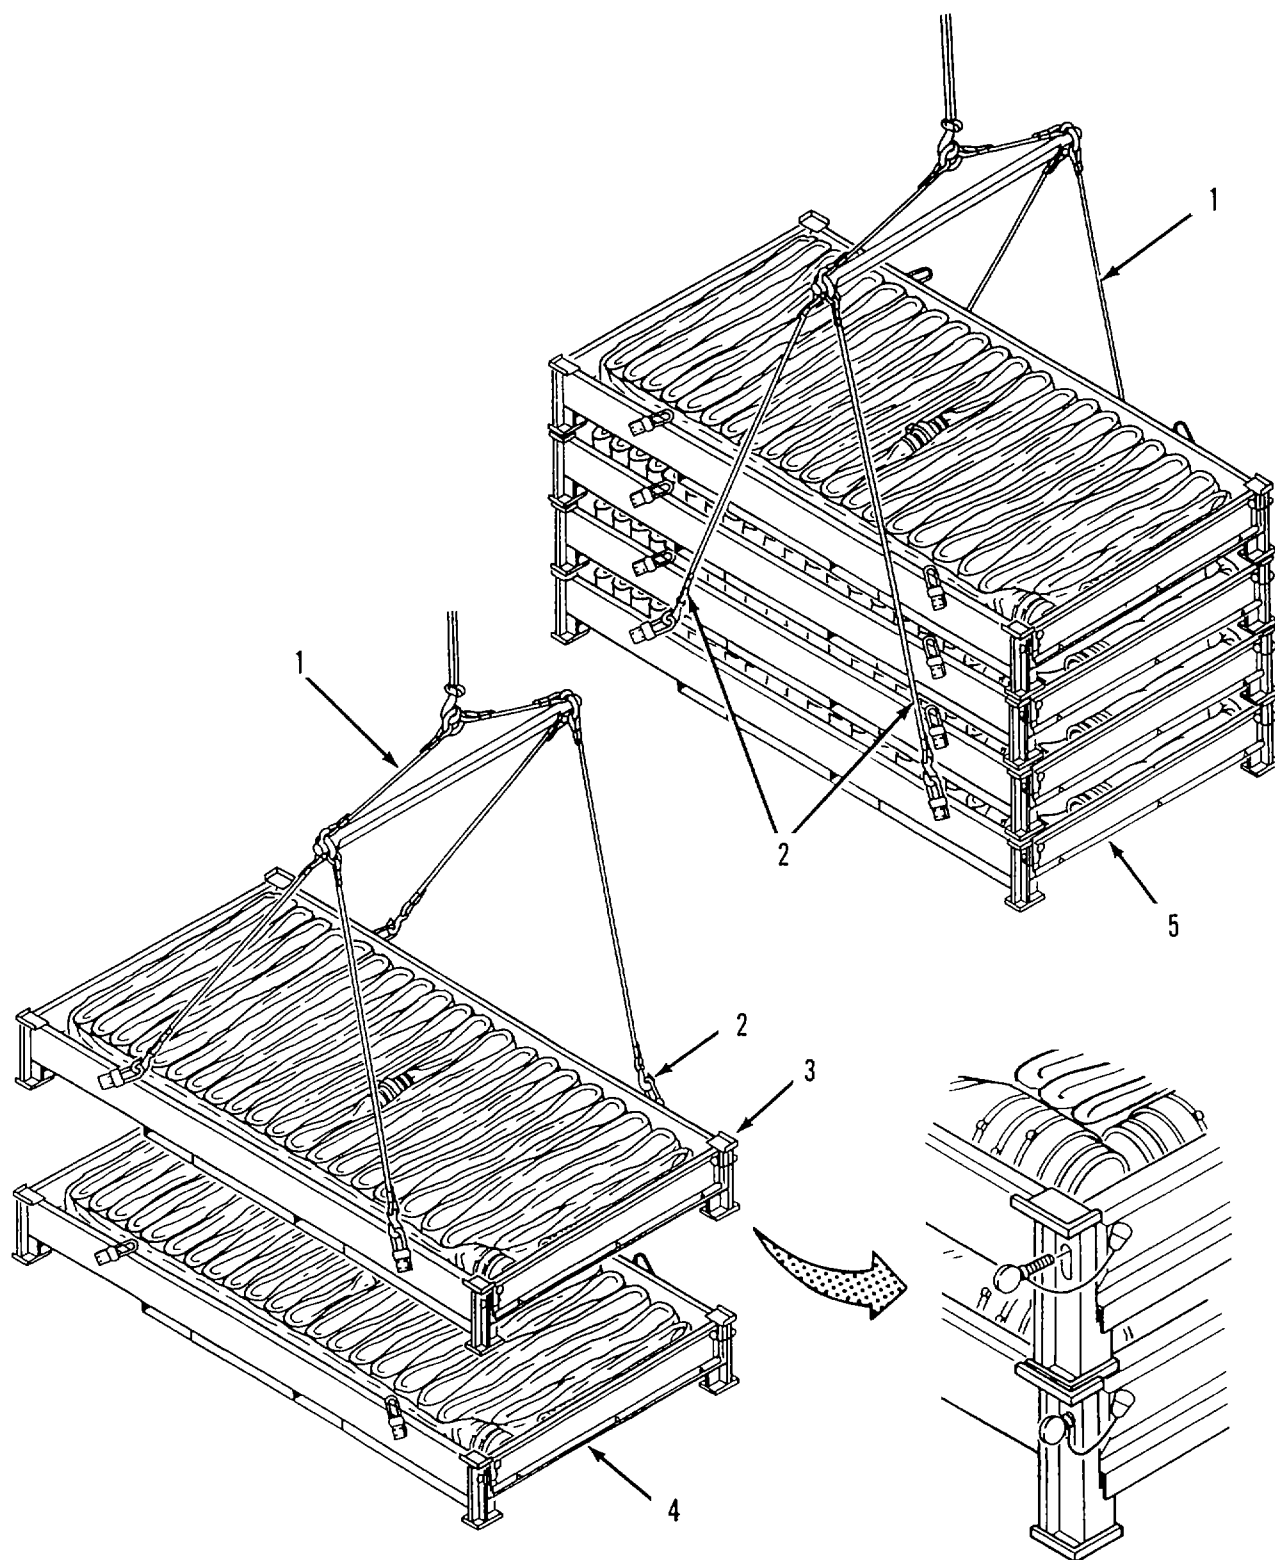

Figure 2-18. Stacking Flaking Boxes.
*Stack Flaking Boxes Refer to figure 2-18.*